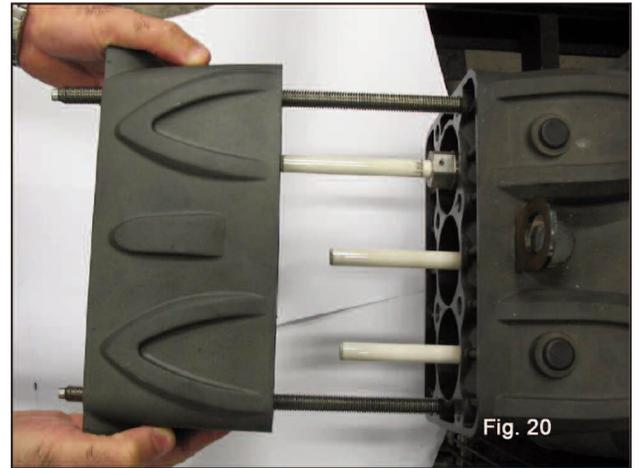

Fig. 20
- Separate the head and the spacer for the liners from the pump casing as shown in fig. 19 and fig. 20.
- Separate the head and the spacer for the liners from the pump casing as shown in 2.2.1 fig. 19 and fig. 20.